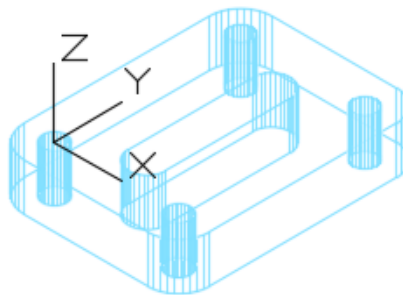

Figure Step 14
Step 14 Set the current visual style to 2D Wireframe. Enter the SUBTRACT command to subtract the five inner solids from the larger solid. (Figure Step 14)